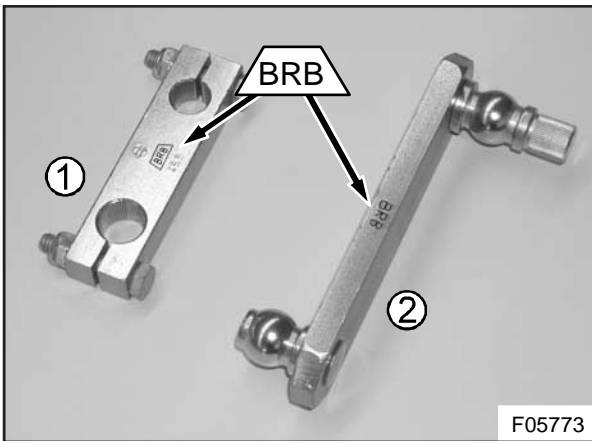

Figure 10: Clamp (1) and bell crank (2) with "BRB" mark.
- The new bell crank and clamp have been marked “BRB” (see Figure 10).